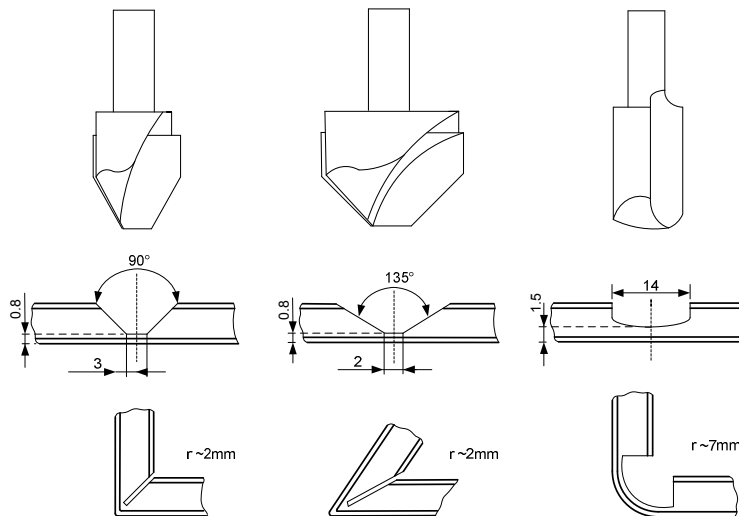

Figure 7. Joining angles and folding Patterns.
0.5 mm and thicker polyethylene cannot be folded easily. On the other hand 0.1 mm and thinner polyethylene causes fracturing of aluminum, and no polyethylene at the jointing point causes the aluminum to break at the first impact. (Figure 7)